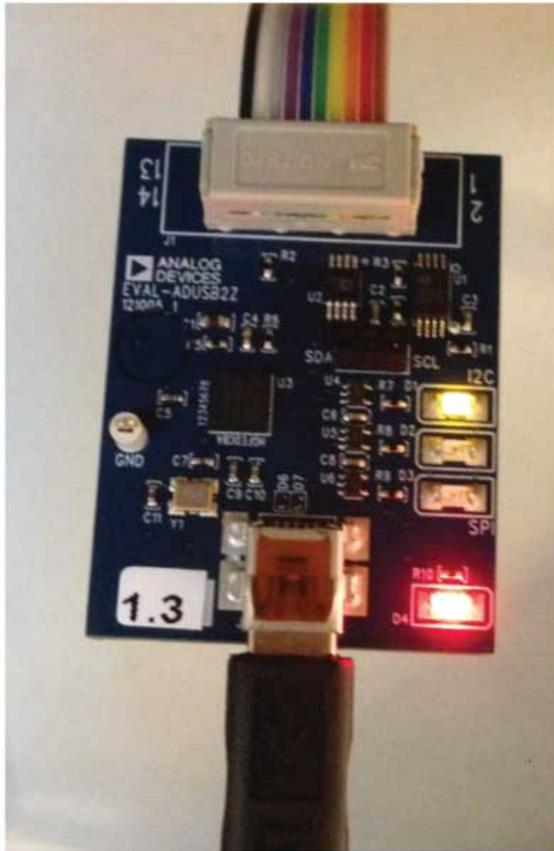

Figure 8. State of USBi Status LEDs After Driver Installation
1. With the USBi still connected to the USB 2.0 port of the PC, check that both the yellow I²C LED and the red power indicator LED are illuminated (see Figure 8).